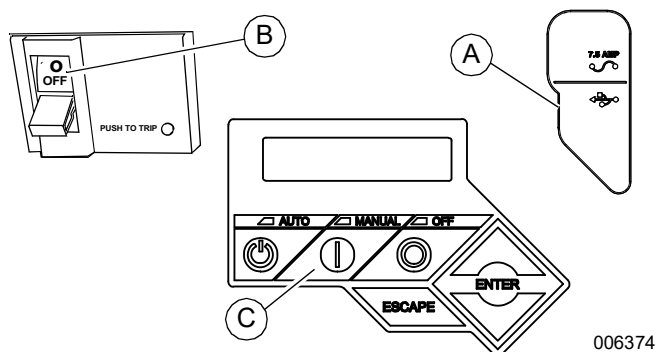
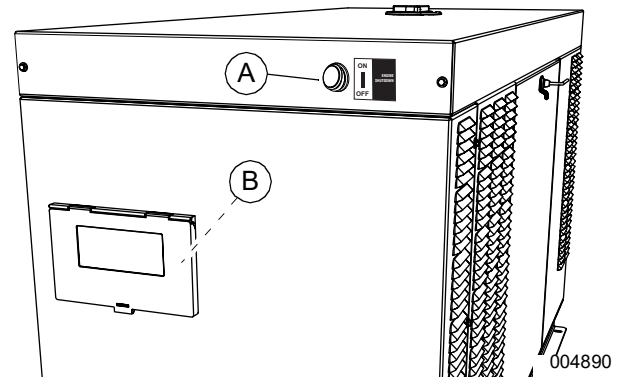

Figure 3-5. Generator Control Panel
Figure 3-6. Auxiliary Shutdown Switches
1. See Figure 3-5. Pull up rubber flap covering fuse holder and verify installation of 7.5 amp fuse (A).
2. Set the main line circuit breaker (MLCB) (generator disconnect) to OFF (OPEN) (B).
3. Verify both auxiliary shutdown switches are ON (I). See Figure 3-6 for locations.
4. Press MANUAL on control panel (C) to start engine. A blue LED illuminates to verify system is in MANUAL.
See Figure 3-6. Generators 15 kW and larger are equipped with two auxiliary shutdown switches. One auxiliary shutdown switch (A) is located on the generator roof above and to the right of the viewing window. The second auxiliary shutdown switch (B) is inside the control panel enclosure.
See Figure 4-1. The control panel is located behind the viewing window at the rear of the unit. See Figure 3-5 and Figure 3-6.